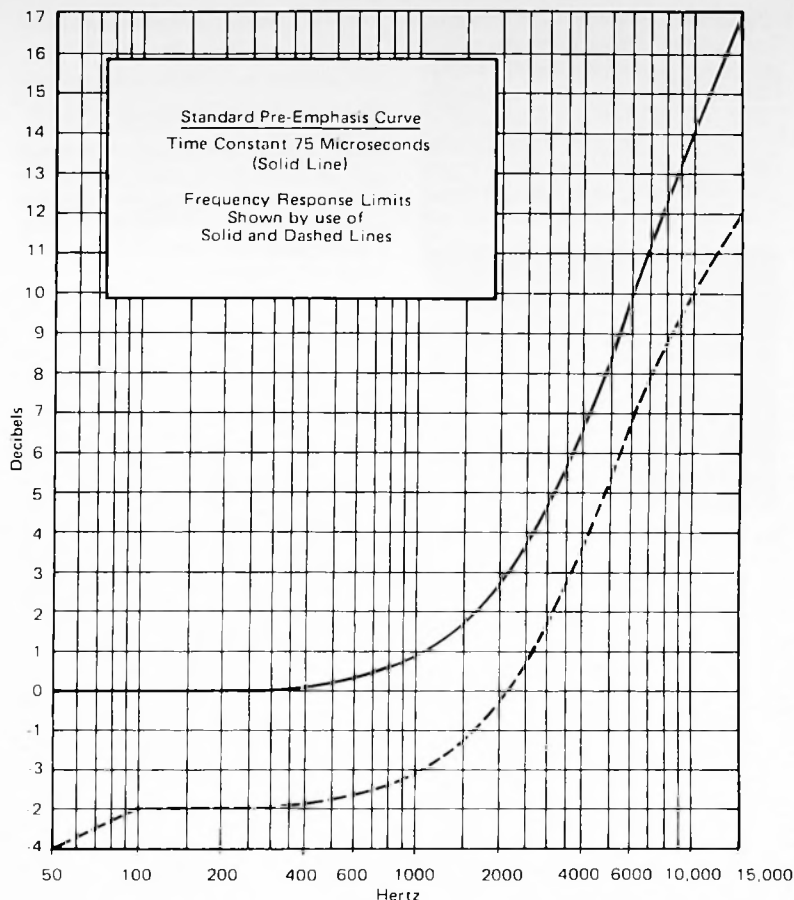

Fig. 15. Standard 75 μ s Pre-emphasis Curve
Frequency response is a measure of the ability of the transmitting chain to pass frequencies required for faithful audio reproduction. The *fm* transmitting system uses a pre-emphasis network in the transmitting chain and a de-emphasis network in the receiver. 75 μ s of pre-emphasis is commonly used except in Dolby stations. The transmitting system must have a frequency response that conforms as closely as possible to the pre-emphasis curve (figure 15) with a tolerance of no more than 3 dB below the curve (in the direction of minimum deviation).
4. Continue the test for frequencies of 100, 400, 1000, 5000, 10,000, and 15,000 Hz. The results can be plotted on a diagram of the pre-emphasis curve (figure 15). Deviations from the 75 μ s pre-emphasis curve indicate frequency response variations.